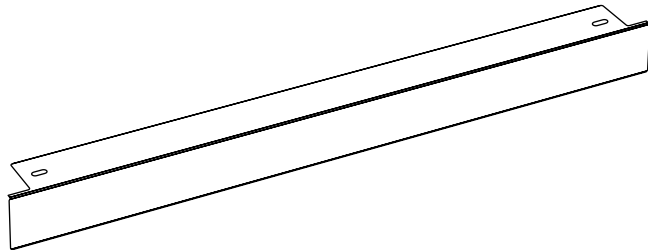

Figure 6
The trim kit (Fig. 6) can be installed with or without the shims.
2. Install trim kit (Fig. 6 included with oven) connecting both shims on the front of the cabinet.